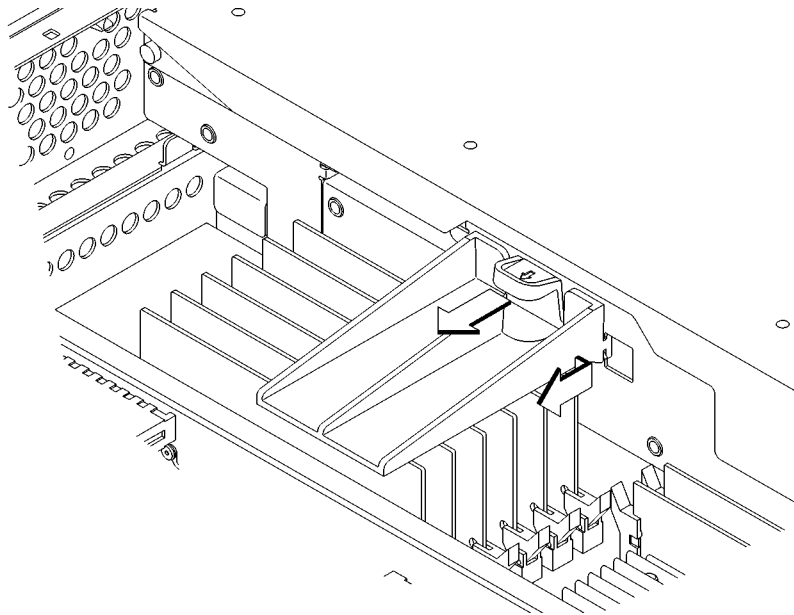

Figure 57 **Removing the Memory Retainer**
- 2 Pull the tab on the memory retainer and slide it toward the front of the main tray to remove it, as shown in Figure 57